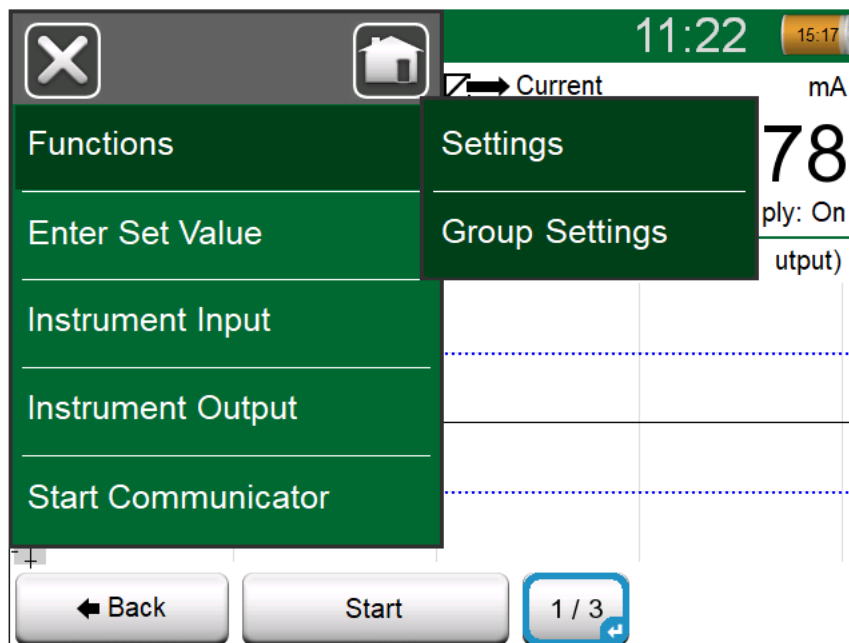

Figure 103: Calibration window – Settings and Group Settings
**Note:** The **Info** button in the Calibration window now indicates which instrument or function is currently shown (see Figure 103: Calibration window – Settings and Group Settings). Press the button to view the instrument configuration data and connection diagrams.
To open the **Group Settings** window, select **Functions > Group Settings** from the context-sensitive menu in the Calibration window (see Figure 103: Calibration window – Settings and Group Settings).